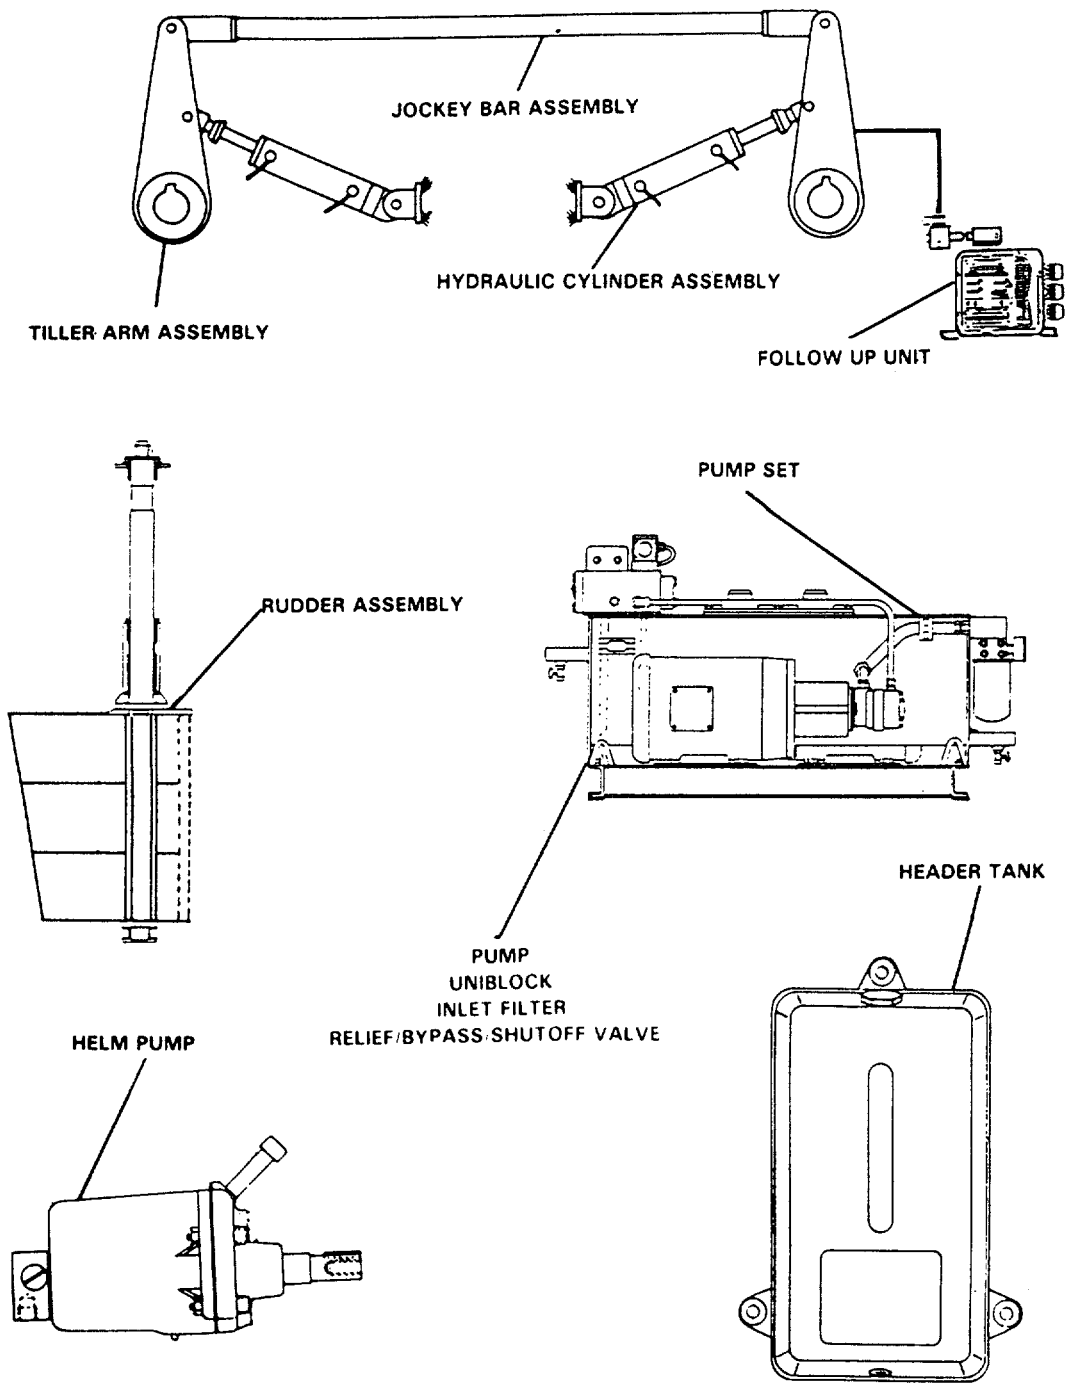

FIGURE 1-1. Electrohydraulic Steering Gear.
b. Name of Equipment. The equipment covered by this manual is the steering gear system that is installed aboard the LCU 2000 Class Watercraft. This manual is limited in scope to the hydraulic portion of the steering gear system. See FIGURES 1-1 and 1-2. The steering control system is covered in TM 55-1905-223-10. Hydraulic components are as follows:
- (1) Twin pumpset, Model TA30D.
- (2) Crossover relief valve used on hulls 2008 and subsequent.
- (3) Double acting relief/bypass/shutoff (DARBS) valve.
- (4) Pair of twin hydraulic cylinders, Model L 100-650.
- (5) Emergency manual helm pump Model 83.
- (6) Emergency hand pump used on hulls 2008 and subsequent.
- (7) 2 Gallon header tank used on hulls 2008 and subsequent.
- (8) Two-litre (1/2 U.S. Gallon) header tanks.
1-6. **General Description.** The LCU 2000 Class Watercraft is equipped with twin propellers and rudders. The electrohydraulic system develops a total rudder torque of 1 3L ton-ft and is capable of rotating the rudders from 35 degrees right of center to 35 degrees left of center in 15 seconds. Steering gear hydraulic equipment includes a dual pumpset to generate hydraulic power, piping and hoses to transmit pressurized fluid, hydraulic cylinders to convert fluid energy into mechanical work, and valves to control and direct fluid flow. The system also includes filters and strainers for fluid conditioning, relief valves for overload protection, and reservoirs for fluid supply and heat dissipation. When steering signals from the pilothouse are interrupted, the steering gear room takes control by using one of the two local control units near the pumpsets. In the event of a power loss to the pumpset, an emergency hand pump is used for emergency steering. The steering gear equipment is shown in FIGURES 1-1 and 1-2.